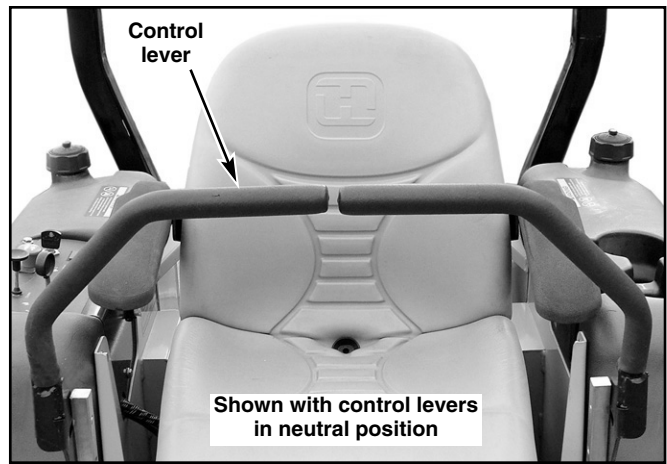

Figure 3-3
- A. **Control levers (Fig. 3-3 & 3-4)** — these levers control the tractor’s speed, direction, stopping, and park brake. Levers are used to steer, accelerate, decelerate and change direction. When the control levers are in the park brake position (3-3) the tractor will not move when the engine is on and drive pumps are operating.